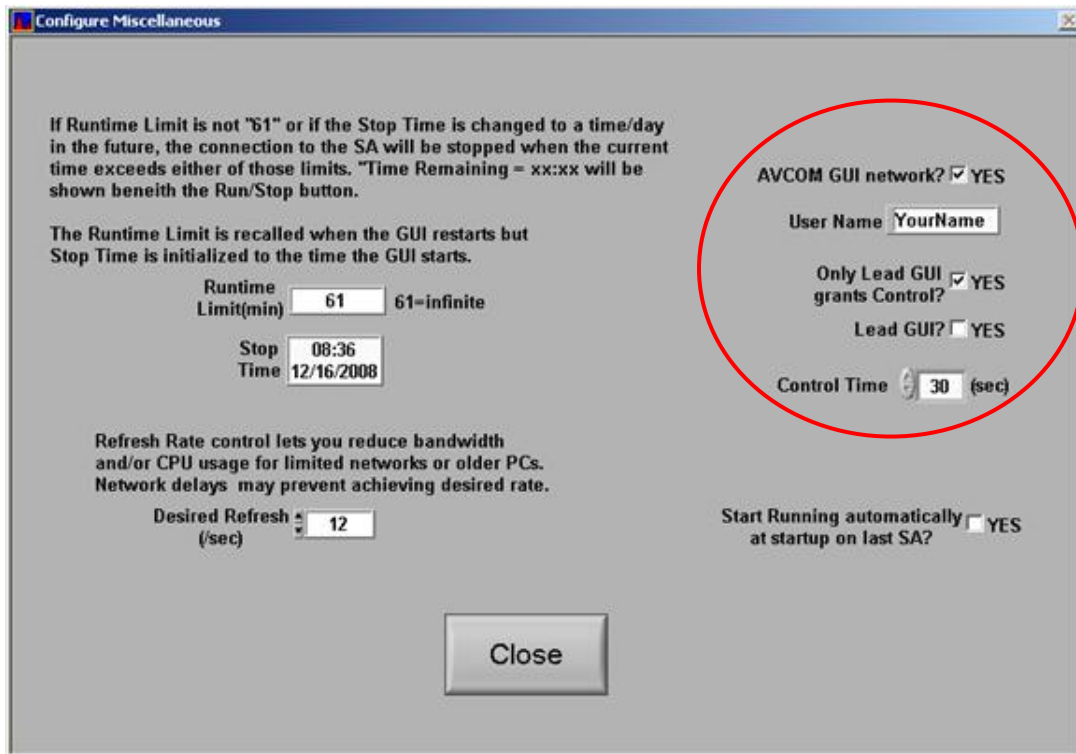

Figure 2
2. In all of the Server and Remote GUIs, go into Configure>Miscellaneous on the Main Menu, as shown in Figure 2, and select AVCOM GUI network.